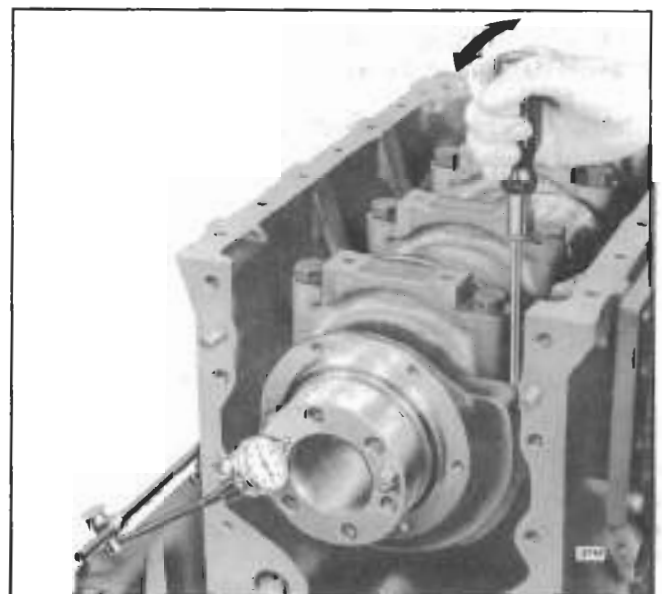

Fig. 11 - Checking Crankshaft End Play
2. Check the crankshaft end play by moving the crankshaft toward the gage (Fig. 11) with a pry bar. Keep a constant pressure on the pry bar and set the dial indicator to zero. Then remove and insert the pry bar on the other side of the bearing cap. Force the crankshaft in the opposite direction and note the amount of end play on the dial. The end play should be .004" to .014" with new parts or a maximum of .018" with used parts. Insufficient end play can be the result of a misaligned rear main bearing or a burr or dirt on the inner face of one or more of the thrust washers.